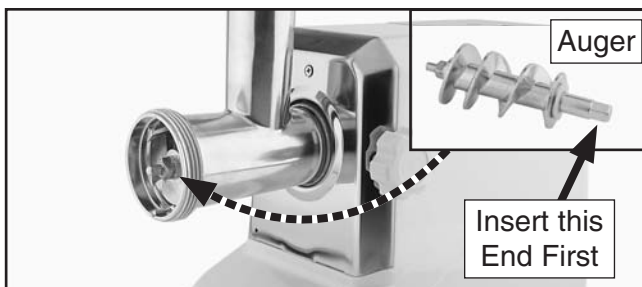

Figure 6. Auger installed.
4. Insert the auger into the drive shaft, (see **Figure 6**). **Note:** *If necessary, wiggle the auger to seat it in the drive shaft.*